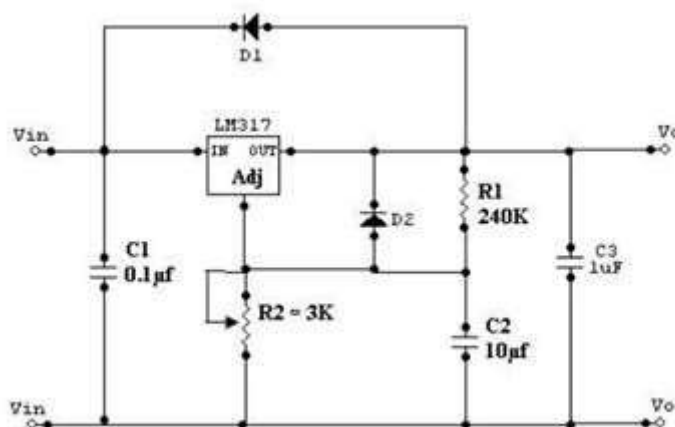

Figure 5.5.2 Practical Regulator
- Practical Regulator is shown in figure 5.5.2. If LM317 is far away from the input power supply, then 0.1µF disc type or 1µF tantalum capacitor should be used at the input of LM317.